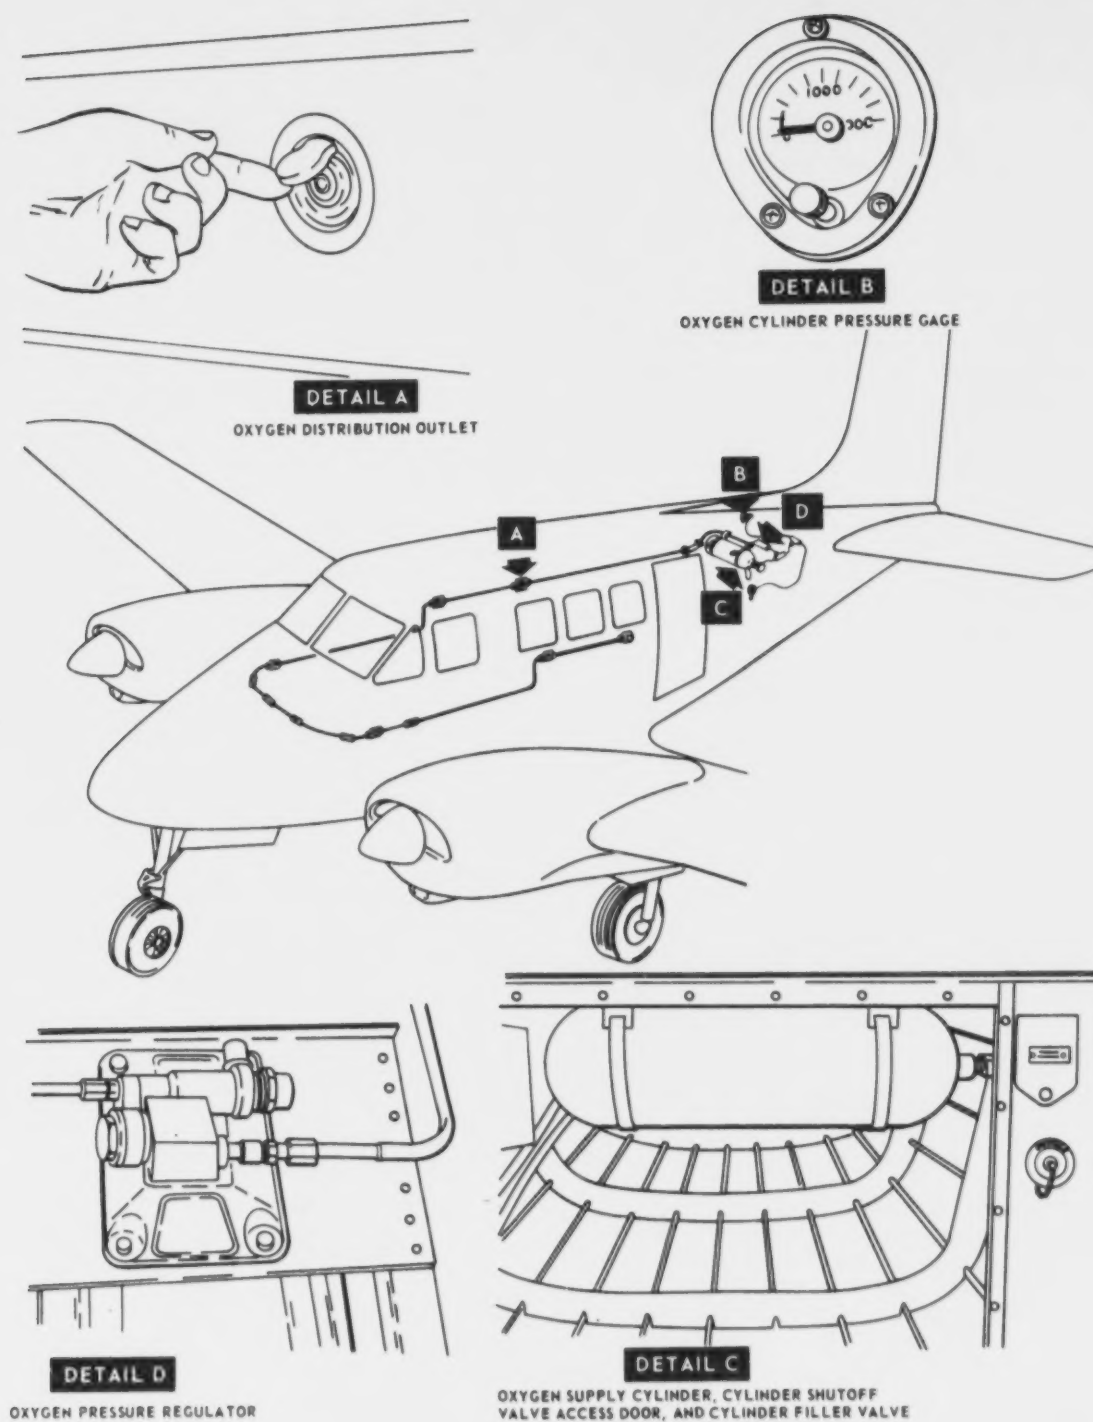

Figure 11-27. Oxygen system (U-8F)
11-128. The oxygen system (figures 11-27 and 11-28) provides breathing oxygen for the pilot, the copilot, and 4 passengers. Oxygen is supplied from an oxygen supply cylinder located beneath the baggage compartment shelf, just aft of the aft fuselage access panel. When charged to the maximum pressure of 1800 psi, the cylinder has a capacity of 63.3 cubic feet. A high pressure tube assembly carries the oxygen from the supply cylinder to an oxygen pressure regulator located beside the cylinder under the baggage compartment shelf. The oxygen pressure regulator reduces the supply pressure to a suitable working pressure and automatically regulates this working pressure so that the proper amount of oxygen will be supplied to the crew and the passengers at the varying altitudes, regardless of the number of people using oxygen. From the oxygen pressure regulator, oxygen is routed through tube assemblies to oxygen distribution outlets connected in a series arrangement around the cabin and flight compartment. Oxygen is admitted to the system by opening the cylinder shutoff valve. Inserting an oxygen mask coupling into one of the oxygen distribution outlets opens the outlet valve and permits oxygen to flow to the mask. An oxygen cylinder pressure gage, located on the baggage compartment bulkhead above the baggage shelf, indicates supply cylinder pressure. The oxygen supply cylinder is charged through a filler valve mounted on the bulkhead below the baggage shelf. Refer to paragraph 1-148 for charging instructions.
11-130. The oxygen supply cylinder (detail C, figure 11-27), is mounted to the underside of
(2) Remove access panel (detail C, figure 11-27) from bulkhead below storage shelf.
(3) Disconnect tube assemblies from oxygen supply cylinder. Cap all open fittings with clean metal caps.
11-132. The oxygen pressure regulator (detail D, figure 11-27) is mounted to the underside of the baggage compartment shelf, just aft of the baggage compartment bulkhead. It reduces the pressure from the oxygen supply cylinder to a suitable working pressure, and automatically regulates this pressure so that the proper amount of oxygen will be supplied to the users through fixed orifices in the outlet valves. The regulator continuously maintains the required predetermined pressure behind the oxygen distribution outlet valve orifices regardless of the altitude or the number of orifices open to oxygen flow.
11-136. The oxygen cylinder pressure gage (detail B, figure 11-27) indicates psi pressure in the oxygen supply cylinder and is located on the aft baggage compartment bulkhead.